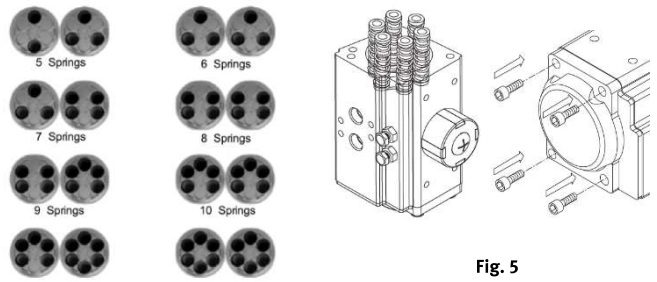

Fig. 5
8. ASSEMBLY OF THE ACTUATOR (see Fig. 5)